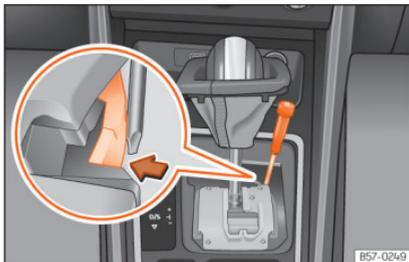

Fig. 218 Gear selector lever: manual release from the parking position.
- Using the flat part of a screwdriver, press the yellow tab sideways and keep it pressed down » » Fig. 218.